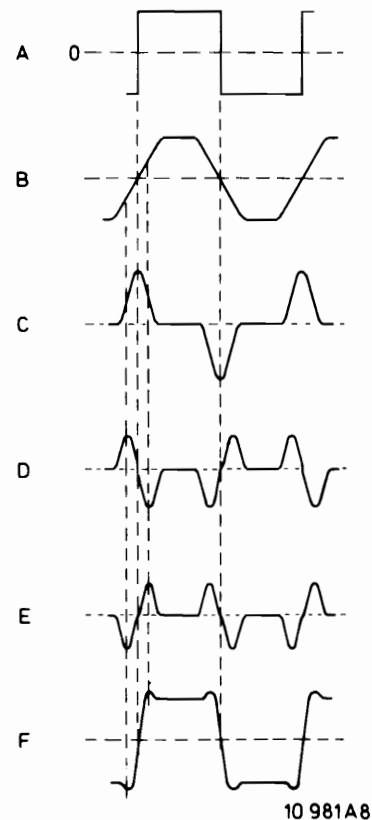

Fig. II-11
On account of the limited bandwidth of this recorder (3 MHz), a square-wave voltage recorded (Fig. II-11A), after playback, will be as shown in Fig. II-11B. The rise time has increased, resulting in a non-sharp transition on the TV screen. Crispening means adapting the signal in such a way that the steps in the signal reproduced, are artificially provided with a sharper edge. The adaptation of the signal is shown in steps in Fig. II-11.
By varying the amplitude of signal (E), see Fig. II-11, the crispening strength can be adjusted. Because the original signal must be added to the crispening signal in the right phase, there is a delay line in the signal path of the original signal. The signal is applied to 17U507 via the crispening unit and via plug connections F42 and L52. From this point onwards, the luminance signal reproduced follows the same signal path to the UHF modulator and to the aerial output as the signal on recording.